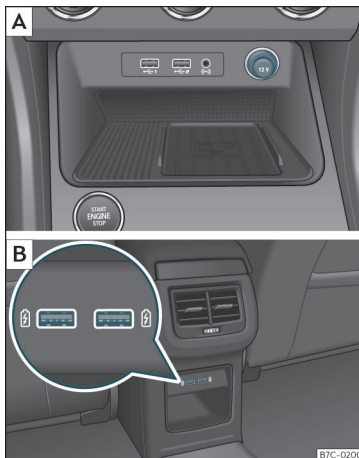

Fig. 133 [A] Centre console: front 12 volt power socket. [B] Rear of the centre console: USB sockets.
- Remove the cap located on the centre console of the socket >>> **Fig. 133. [A]**.
These USB ports are located at the rear of the console, between the front seats >> **Fig. 133** . These connectors can work at a maximum power of up to 10.5 W per port.